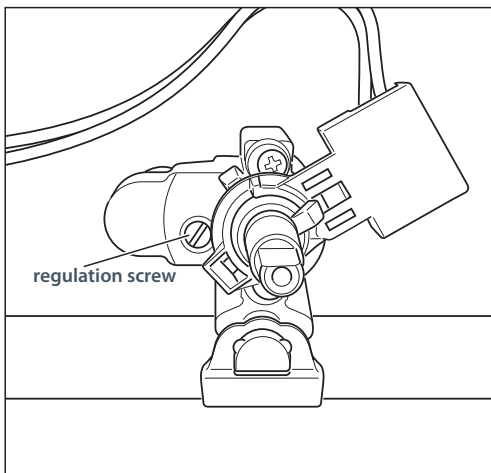

Fig. 18 Adjusting the minimum burner setting:
- 4 Using a small flat screwdriver, turn the screw (see Fig. 18) to the correct regulation.